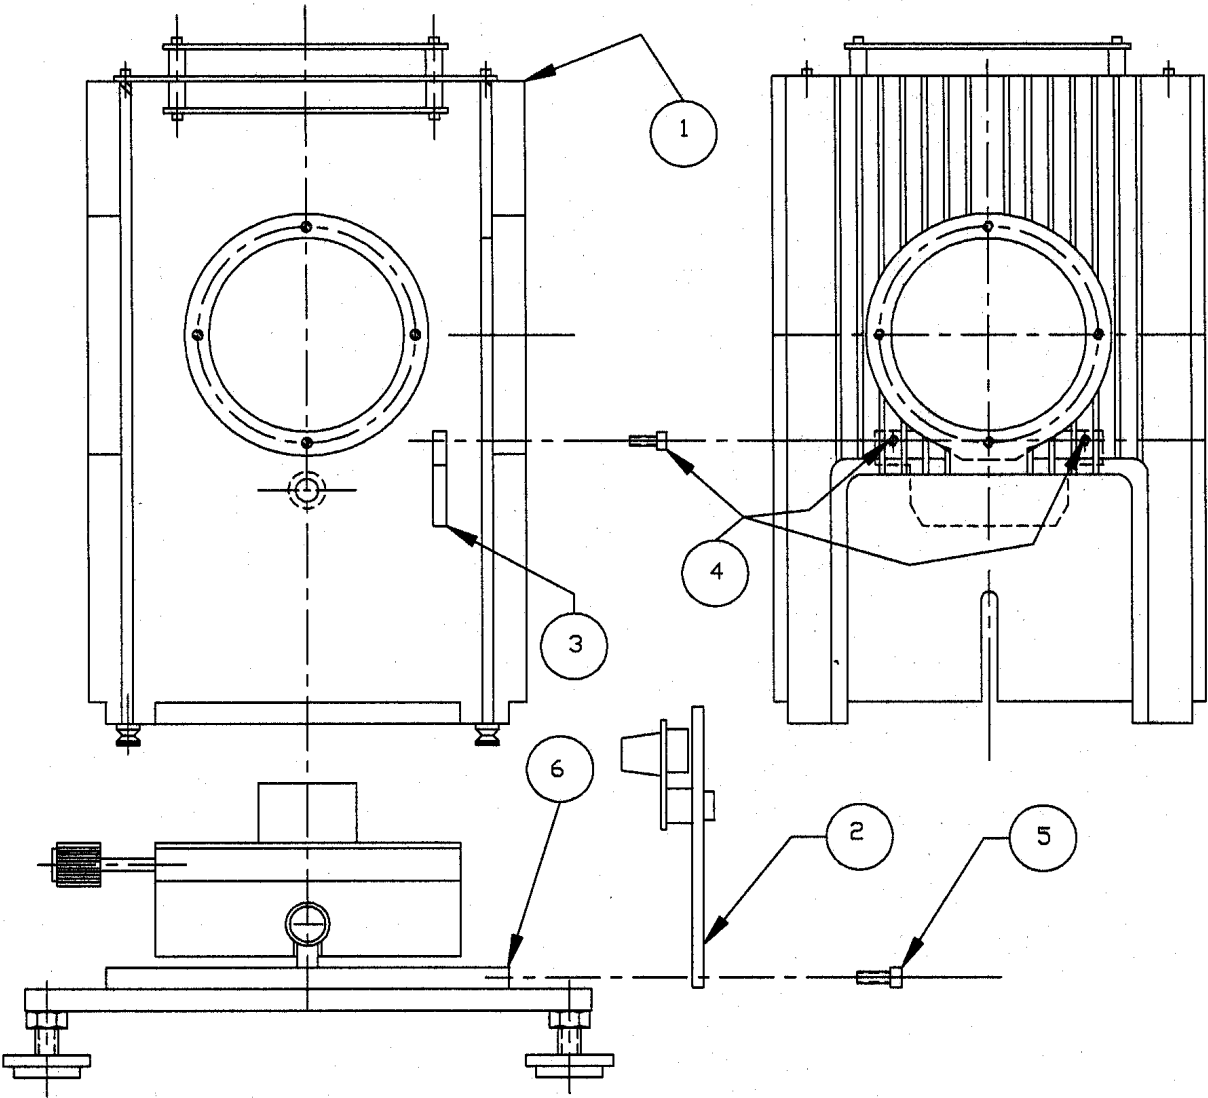

Figure 17 : 60090 Interface Kit Assembly
1. Remove the shell from the Series Q Housing and install the panel as described in section 4.1, items 1 and 2.
2. Install the interlock actuator (item 3, Figure 17) by removing the two #6-32 screw plugs (item 4). Align the actuator per Figure 17 and secure with two #4-40 x 1/4" screws provided in kit. (Item 4, Figure 17) (Note: the two 6-32 screw plugs are not used with this kit. Only used to block light when other kits are installed.)
The mount consist of the following components (see Figure 17):